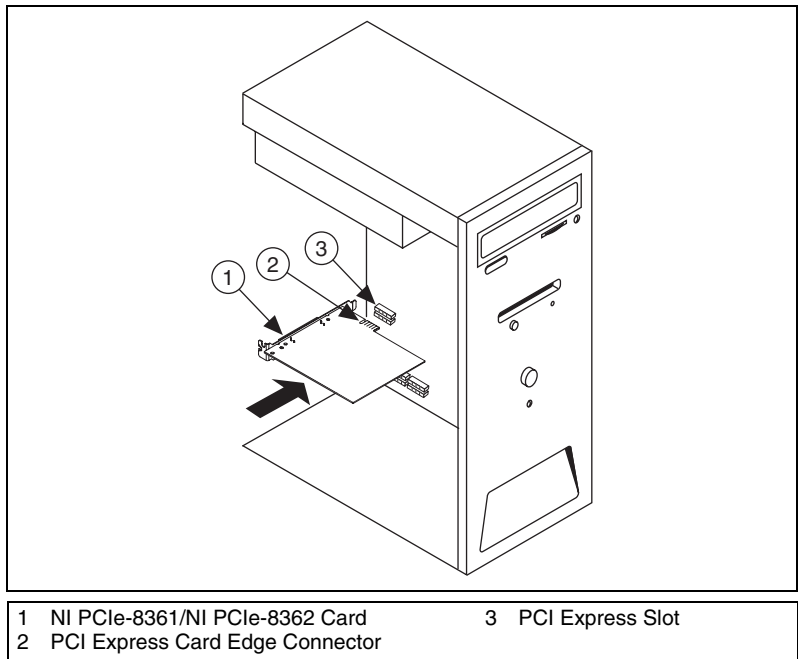

Figure 1. Installing the NI PCIe-8361/NI PCIe-8362
6. Line up the NI PCIe-8361/NI PCIe-8362 with the slot on the back panel. Slowly push down on the top of the NI PCIe-8361/NI PCIe-8362 until its card-edge connector is resting on the expansion slot receptacle. Using slow, evenly distributed pressure, press the NI PCIe-8361/NI PCIe-8362 straight down until it seats completely in the expansion slot, as shown in Figure 1.